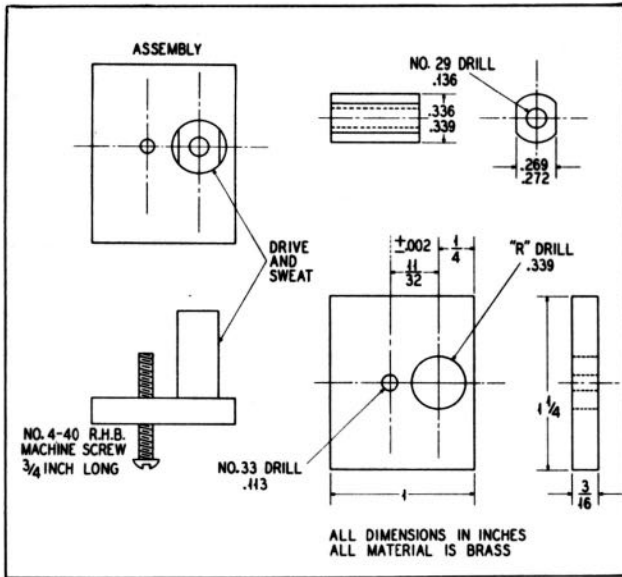

Figure 4-7. Fabrication of I-F Coil-Centering Jig
This jig, shown in figure 4-7, is recommended for mechanically centering the i-f coils of i-f transformers Z202, Z203, and Z204. This jig can be fabricated from scrap brass material and a No. 4-40 round-head machine screw,  $\frac{3}{4}$  inch long. Construct this jig as follows:
a. Obtain a cylindrical-shaped piece of brass and shape it as shown in figure 4-7. Using a No. 29 drill, drill a .136-inch hole concentrically through its axis.
b. Cut a piece of 3/16-inch, flat brass 1 inch by 1 $\frac{1}{4}$  inches. Using a No. 33 drill make a .113-inch hole in the position shown in figure 4-7 and using an "R" drill, make a .339-inch hole, with 11/32-inch center spacing from the first.